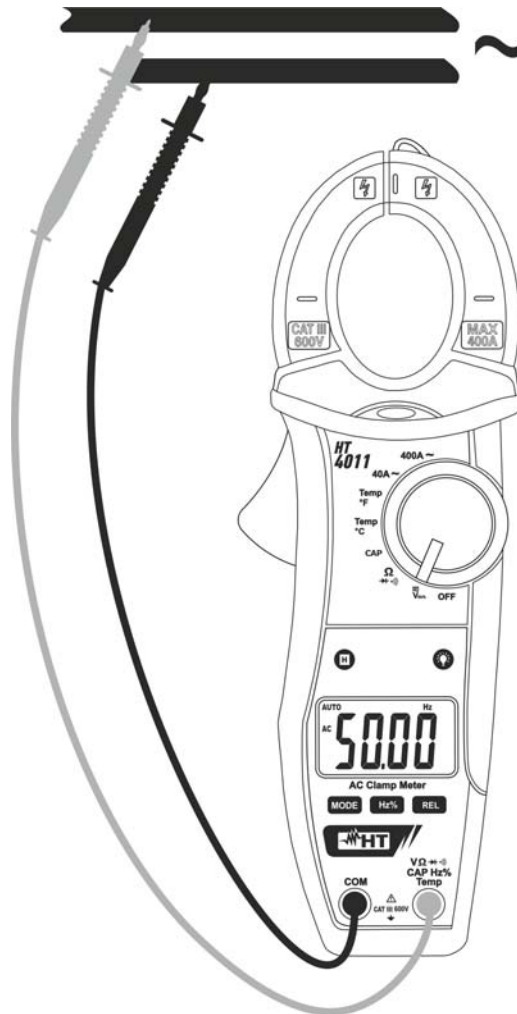

Fig. 5: Use of the clamp for frequency measurement and duty cycle
4. Position the test leads in the desired points of the circuit to be measured (see Fig. 5). The value of frequency (Hz) or of duty cycle (%) is shown on the display.